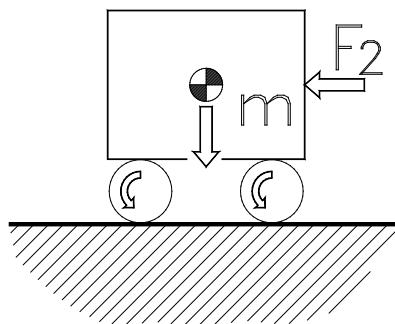

Fig. 1.2
**Rolling element bearings**, however, work with the principle of rolling friction (fig. 1.2).